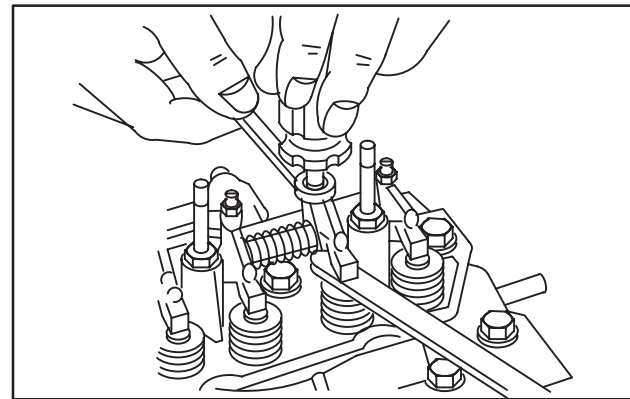

Fig. 40 – Adjust Valve Clearances
- a. Adjust valves and check, Fig. 40.